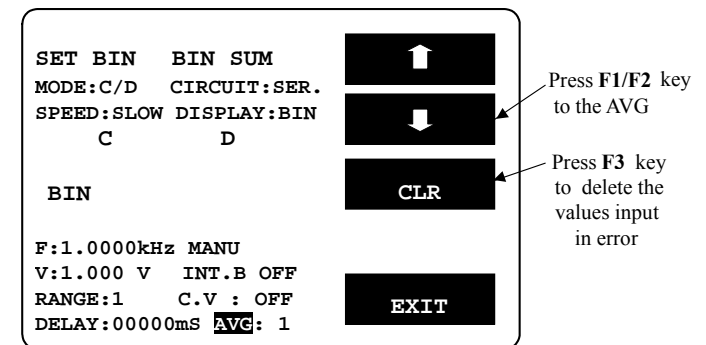

Figure 8-13
- Press  key shown as Figure 8-13 below. For further details, please refer to 4-5-7.